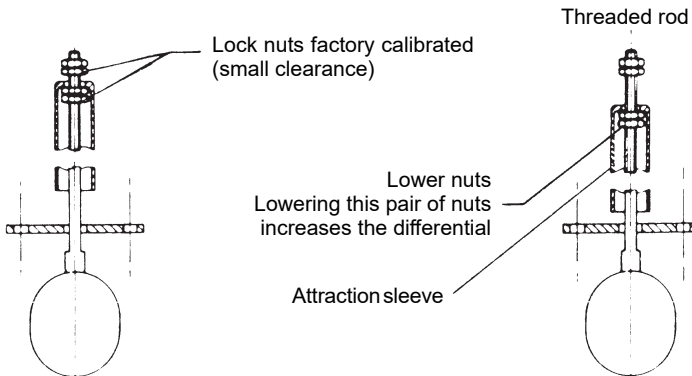

Fig. 5
- 2 - Remove the enclosing tube as well as the entire housing by means of the hexagonal nut (41 mm) beneath the base. In this way the magnetic piston and the relative locking nuts can be reached directly (see Fig. 5).